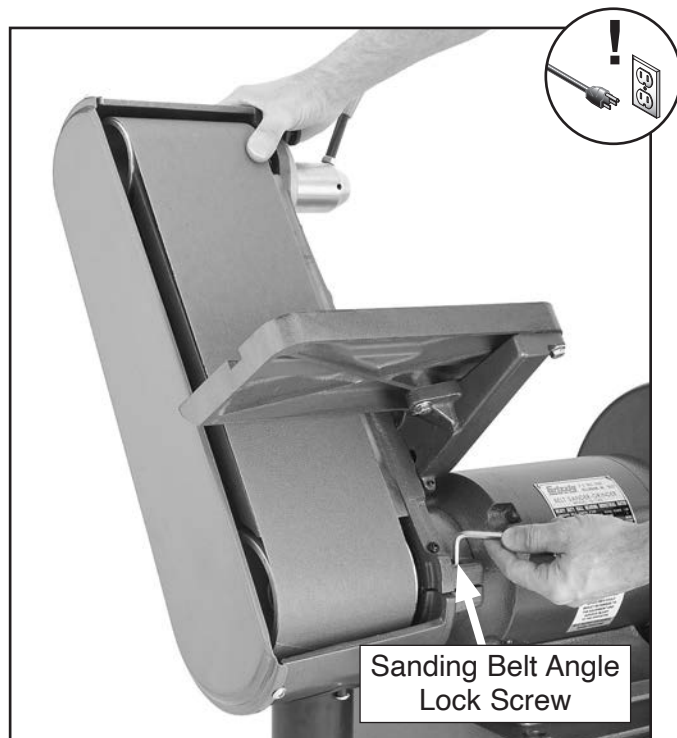

Figure 32. Example of adjusting platen tilt.
The Model G0997 platen can be positioned from 0°–90°, depending on your operation (see **Figure 32**).
2. While supporting platen body, loosen sanding belt angle lock screw (see **Figure 32**). Adjust platen angle as desired, then tighten lock screw to secure.